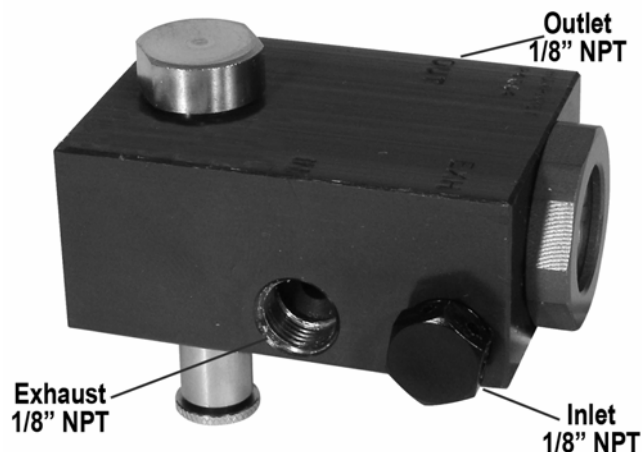

Figure 1 - DVO
5. Using the proper tools, disconnect the Inlet, Outlet, and Exhaust fittings from the existing DVO. See **Figure 1**. You will re-connect these to the new DVO in a later step.